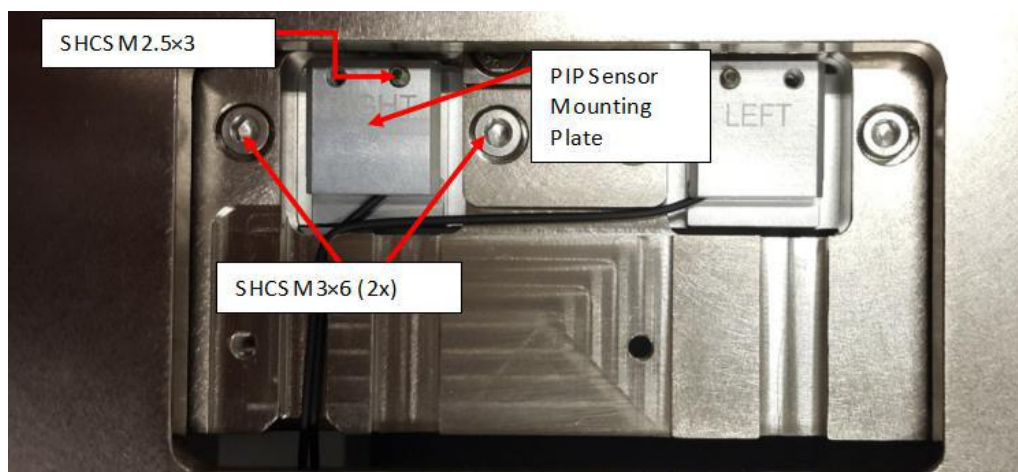
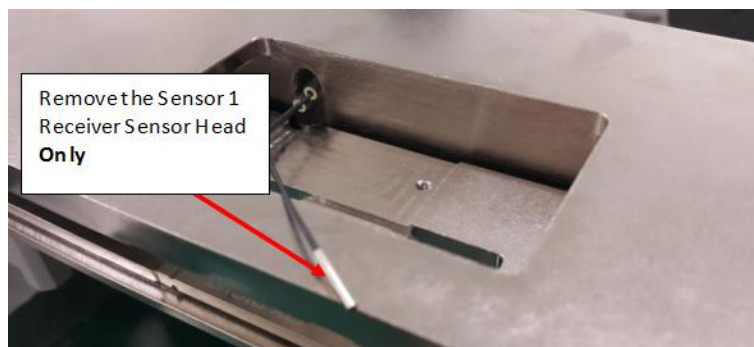

Figure 15 Sensor 1 Receiver
Figure 16 Sensor 1 Receiver
2. Remove SHCS M3×6 (2x) from Sensor 1 Receiver as shown in Figure 15. Loosen SHCS M2.5×3 as shown in Figure 15. Remove the optical sensor 1 receiver head from pip sensor mounting plate as shown in Figure 16